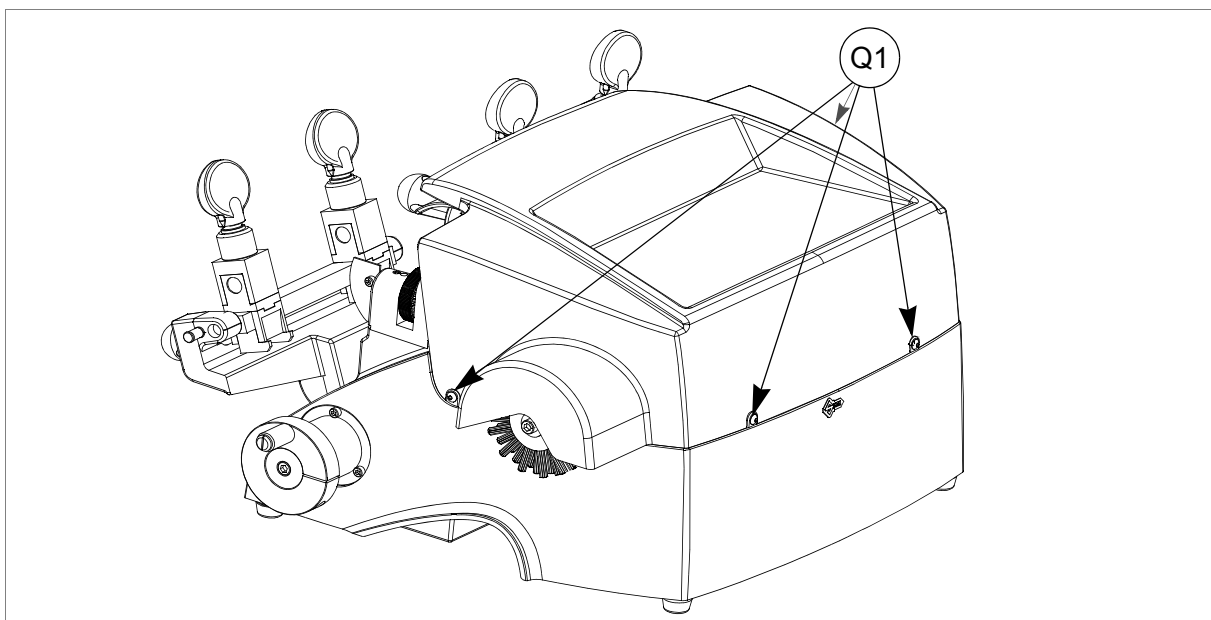

Fig. 65
- 1) Loosen the 4 screws (Q1) and remove the top cover(Q) (fig. 65).
- 1) Loosen the 4 screws (Q1) and remove the top cover (Q) (fig. 65).
- 1) Loosen the 4 screws (Q1) and remove the top cover (Q) (fig.65, page 42).